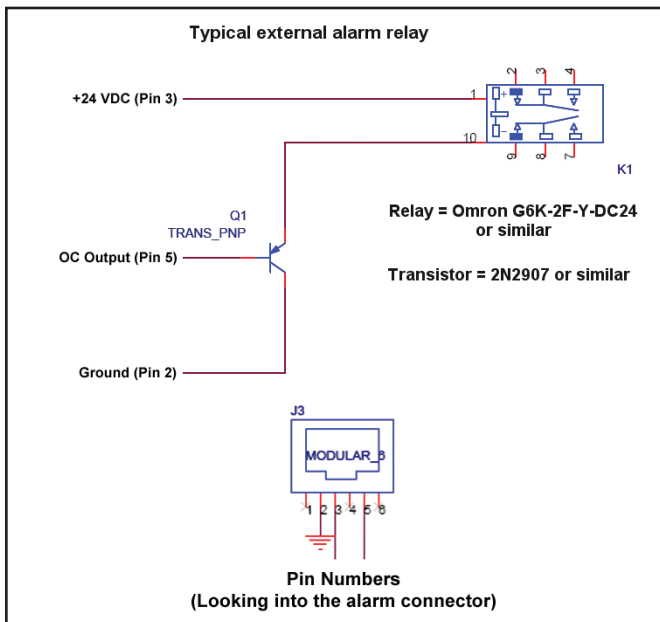

Figure 4. Typical external relay circuit
- C. I/O Signal Output:** Can be used to output to a light tower. (Relay required, see Figure 4)